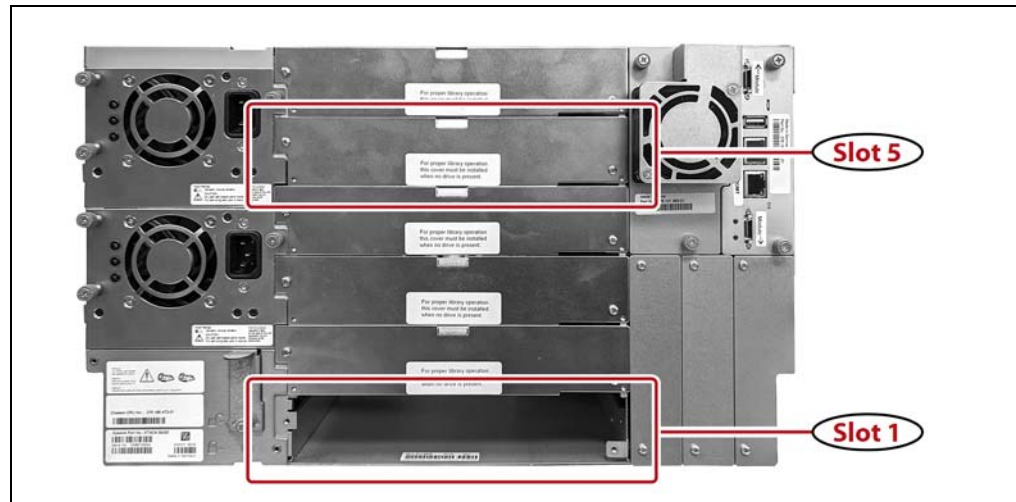

Figure 2 The rear of the Spectra Stack chassis.
9. While holding the robotic elevator at the top of the chassis, install the robotic shipping bracket in the slot 5 drive bay (see Figure 2 on page 6).